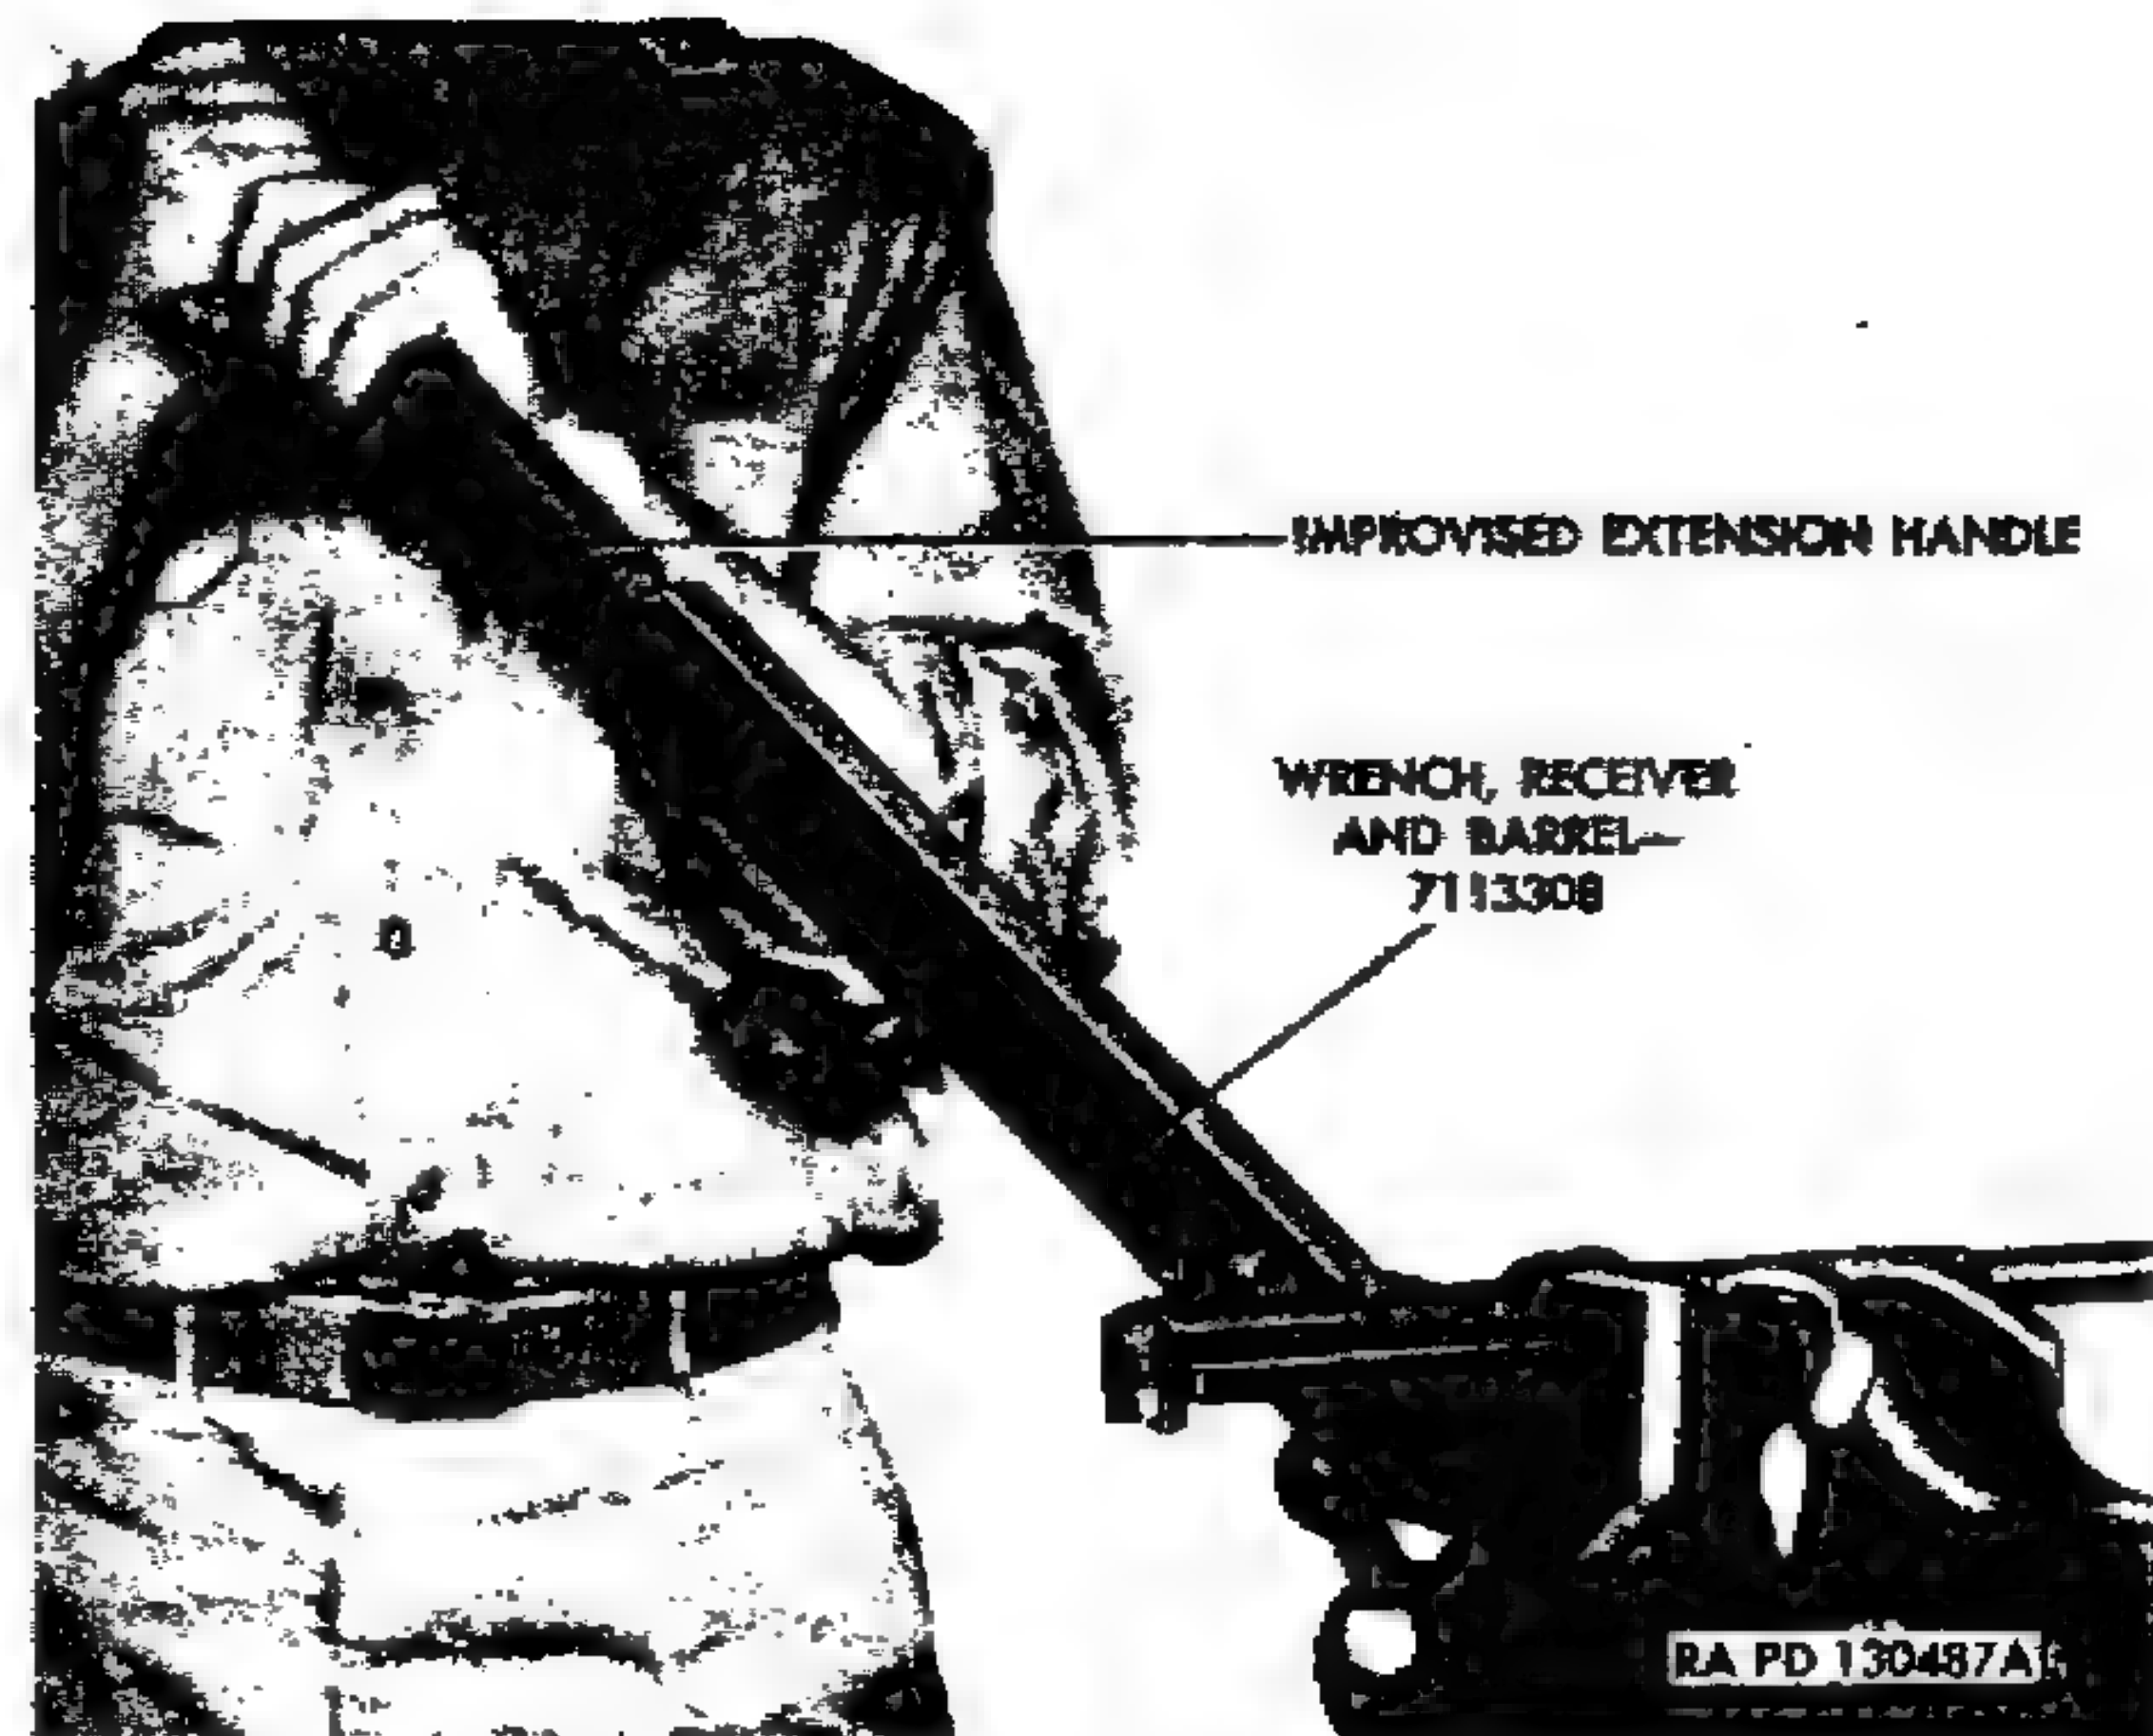

Figure 76. Removing barrel from receiver.
a. *Removing Barrel From Receiver (DEPOT MAINTENANCE ONLY).* Do not remove the barrel from the receiver except for replacement of a new barrel. Replace barrel if it is bent or damaged if the chamber is worn to the extent of effecting excessive headspace (par. 15g) or if it does not meet the requirements specified in table III. Completely disassemble all components from barrel and receiver. Place barrel in jaw protected vise. Allow enough of the rear end of the barrel to project from the vise to permit the wrench 7113308 (fig. 9) to be positioned over front of receiver (fig. 76). Place wrench over receiver near barrel and unscrew counterclockwise.